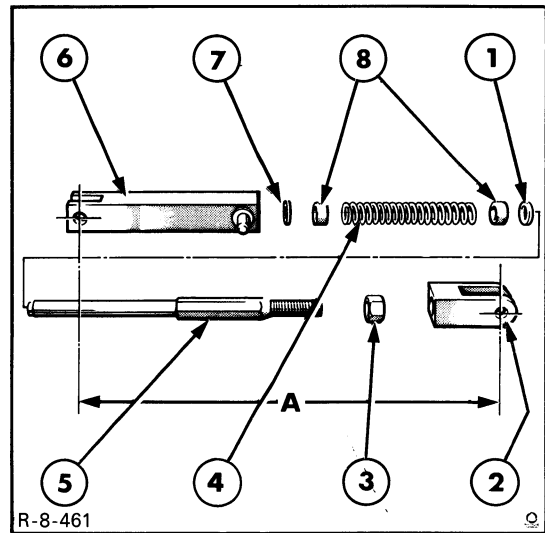

Figure 10
7. Remove the retaining rings and disassemble the actuator, Figure 10. Check the spring and bearing for damage or wear. Where necessary, install new parts.